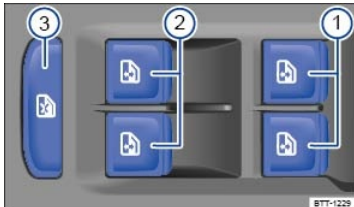

Fig. 78 In the driver door: Switches for the front and rear power windows.
Key to ⇒ Fig. 78 :
- ① For the windows in the front doors.
- ② For the windows in the rear doors.
- ③ Safety switch.
- The safety switch ⇒ Fig. 78 ③ deactivates the power windows in the rear doors. The yellow indicator light in the switch comes on.